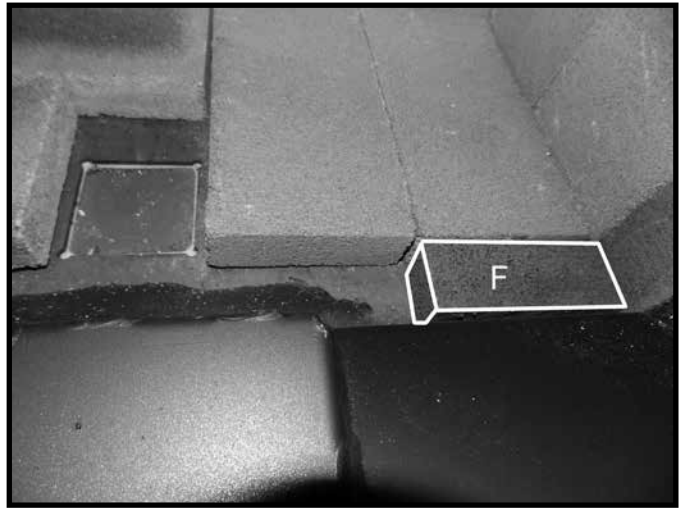
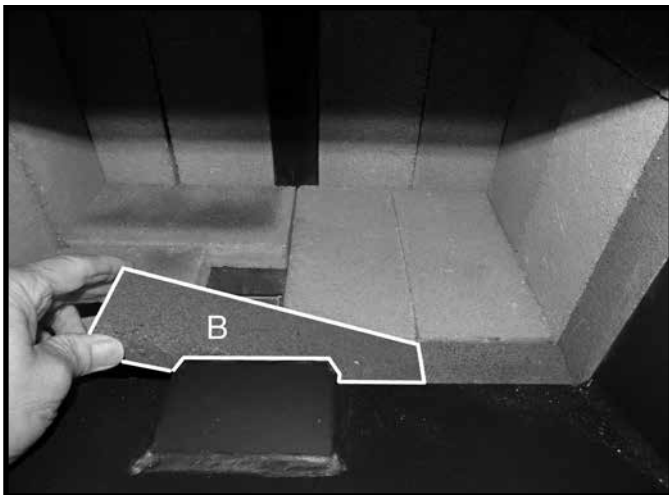

Figure 21: Short, narrow brick installed in front row.
Figure 22: Long narrow center brick in front row.
7. Place a short narrow "F" brick against the front right side of the floor (Figure 21) followed by a longer "B" brick in the center of the front row (Figure 22). Finish with the last "F" brick placed against the left side front row (Figure 23). Note: There will be a leftover gap behind the ash dump.